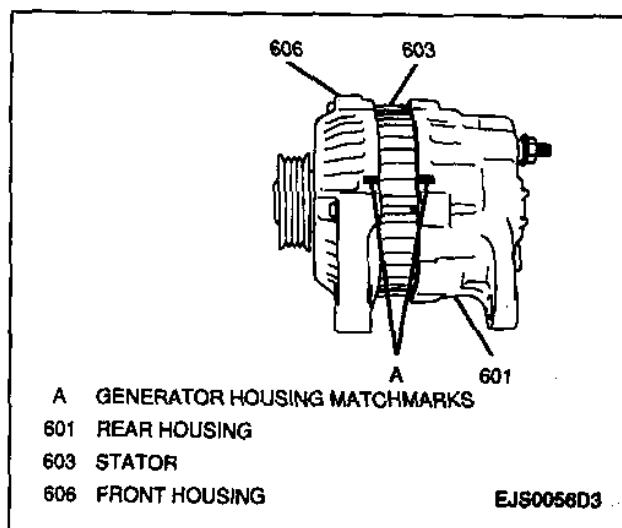

Figure 5—Generator Housing Matchmarks
1. Scribe matchmarks on the front and rear housing to ensure proper assembly (Figure 5).